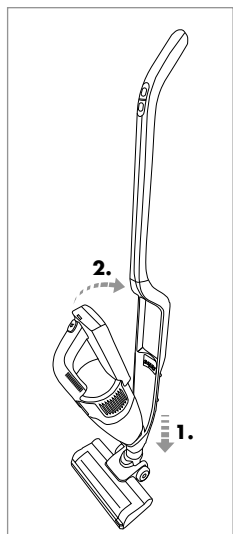

Fig. 3
- 1) To connect the hand element **3** to the handle rod **12**, push the tip of the hand element **3** into the opening in the hand element recess **14** (Fig. 3).
- 2) Then press the grip **2** of the hand element **3** into the hand element recess **14** so that the hand element **3** clicks firmly into position (Fig. 3).